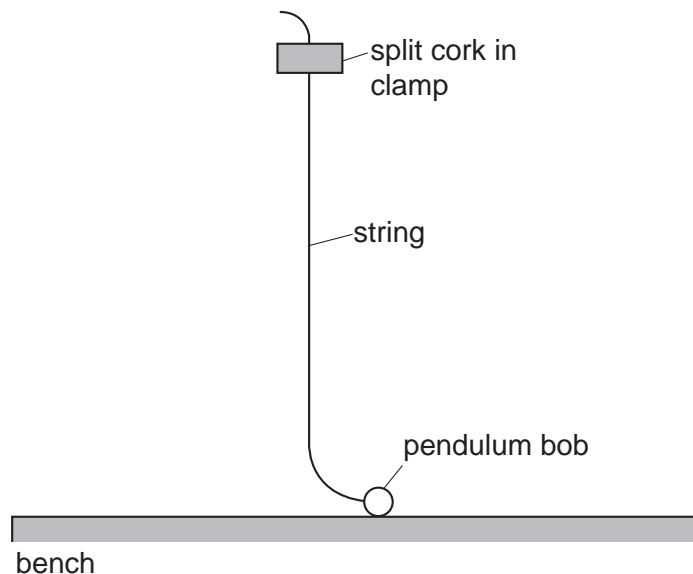

Fig. 2.1
2. The pendulum should be set up for the candidates with the pendulum bob resting on the bench, as shown in Fig. 2.1.
Arrange the pendulum as shown in Fig. 2.1.